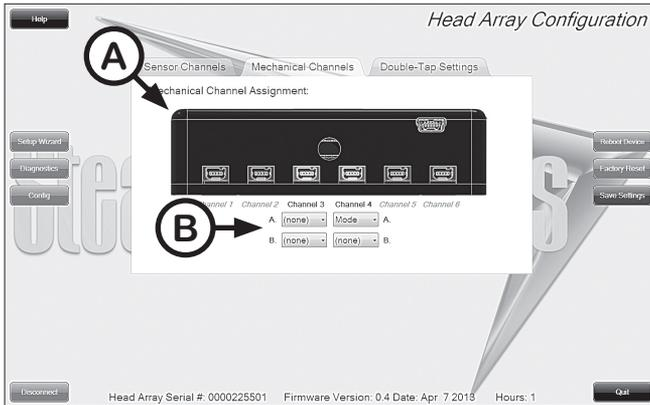

Fig.3.4.3
- B. *Mechanical Channels* Tab** - Navigates to the Mechanical Channels menu (see Fig.3.4.3 on p17)